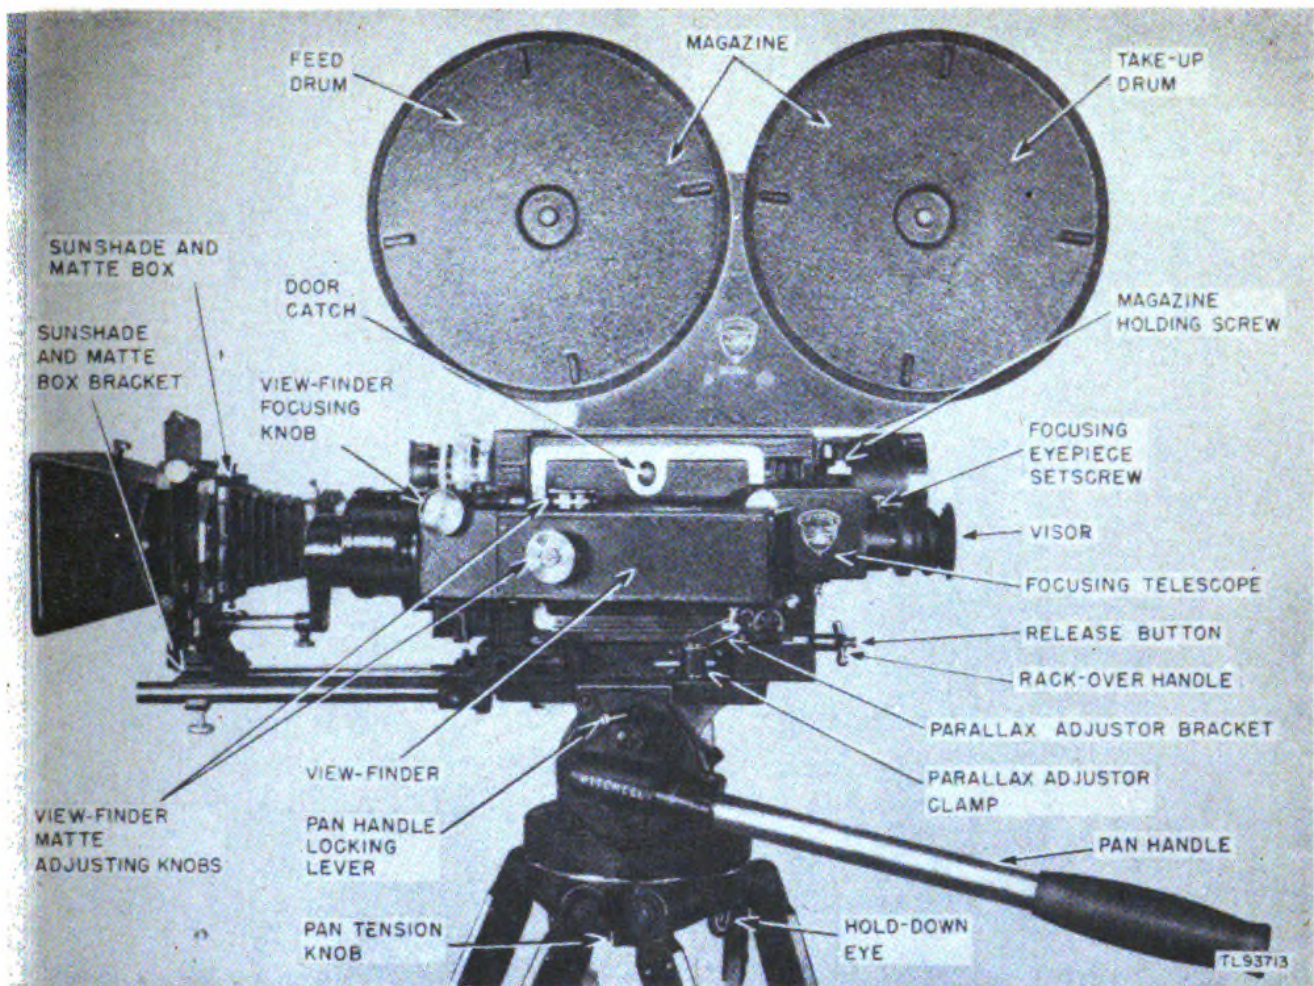
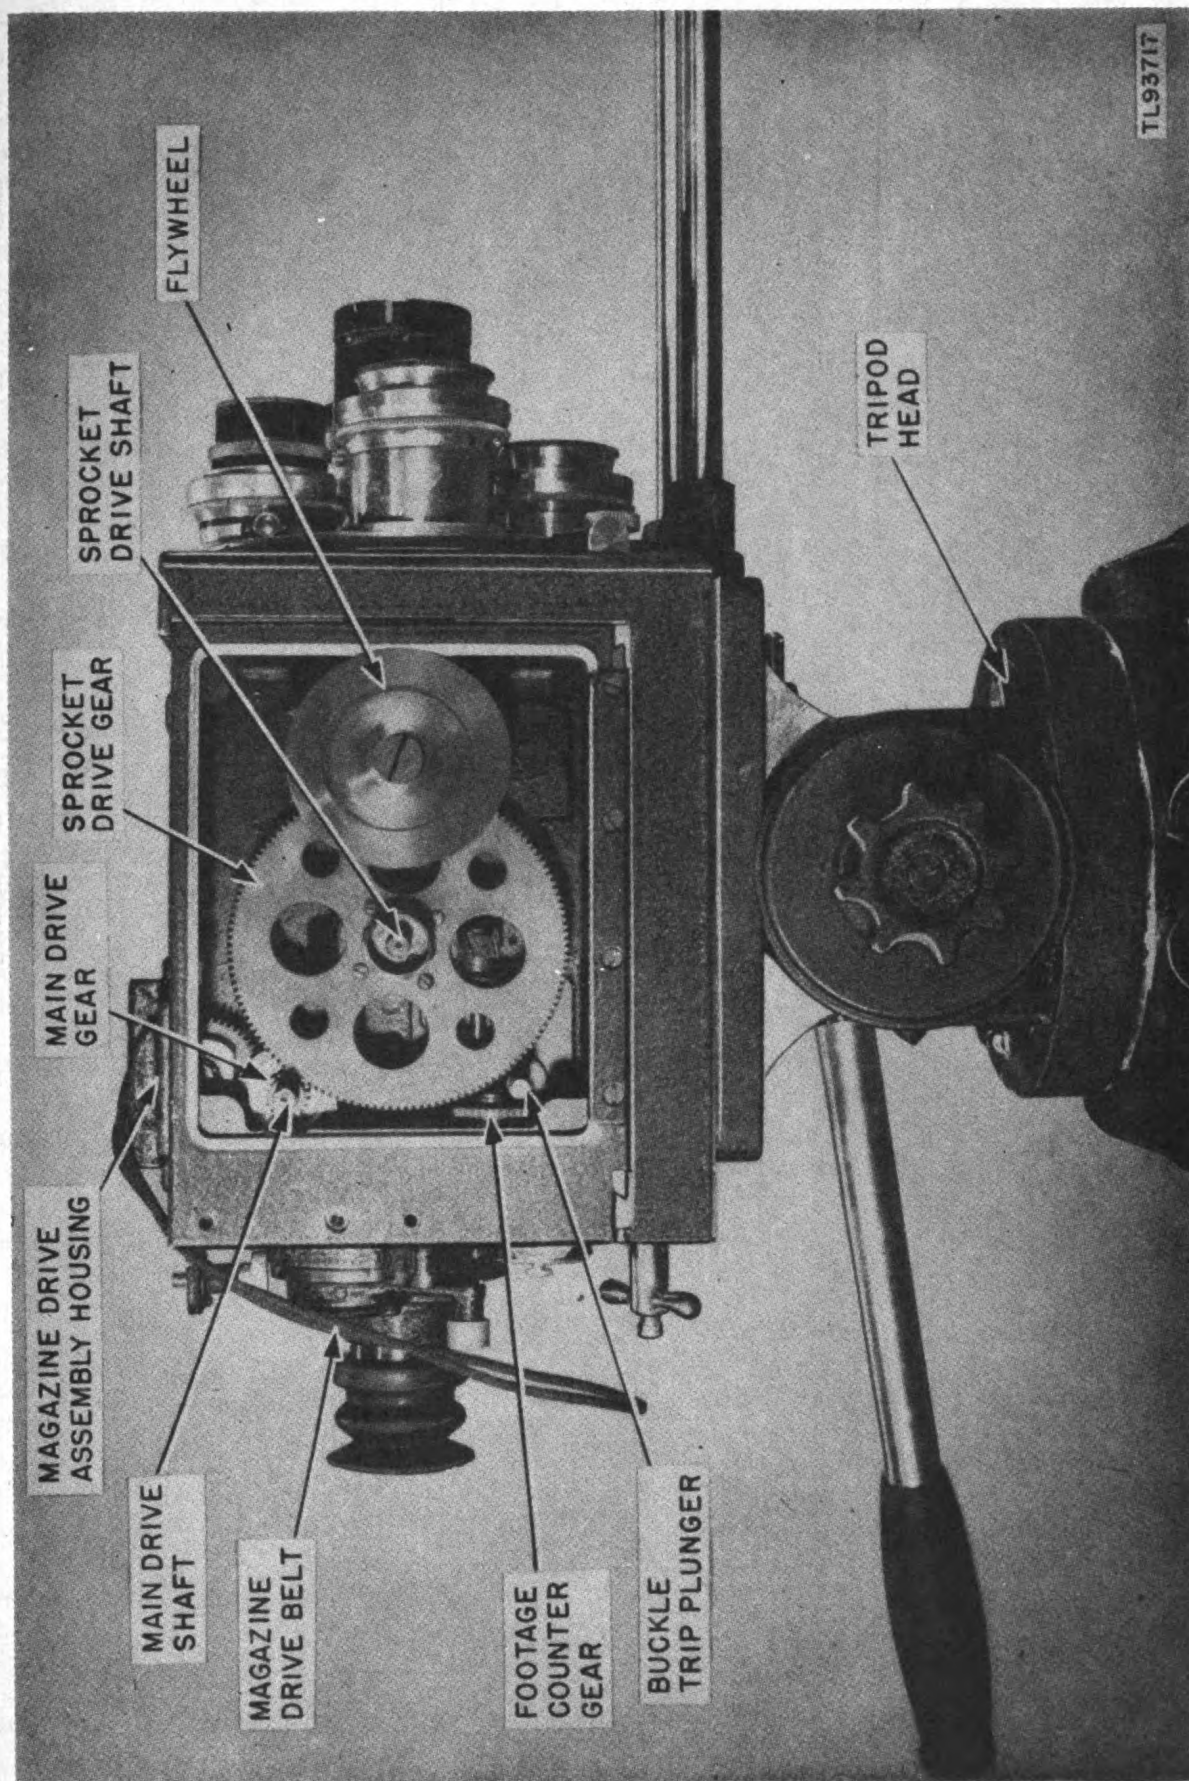
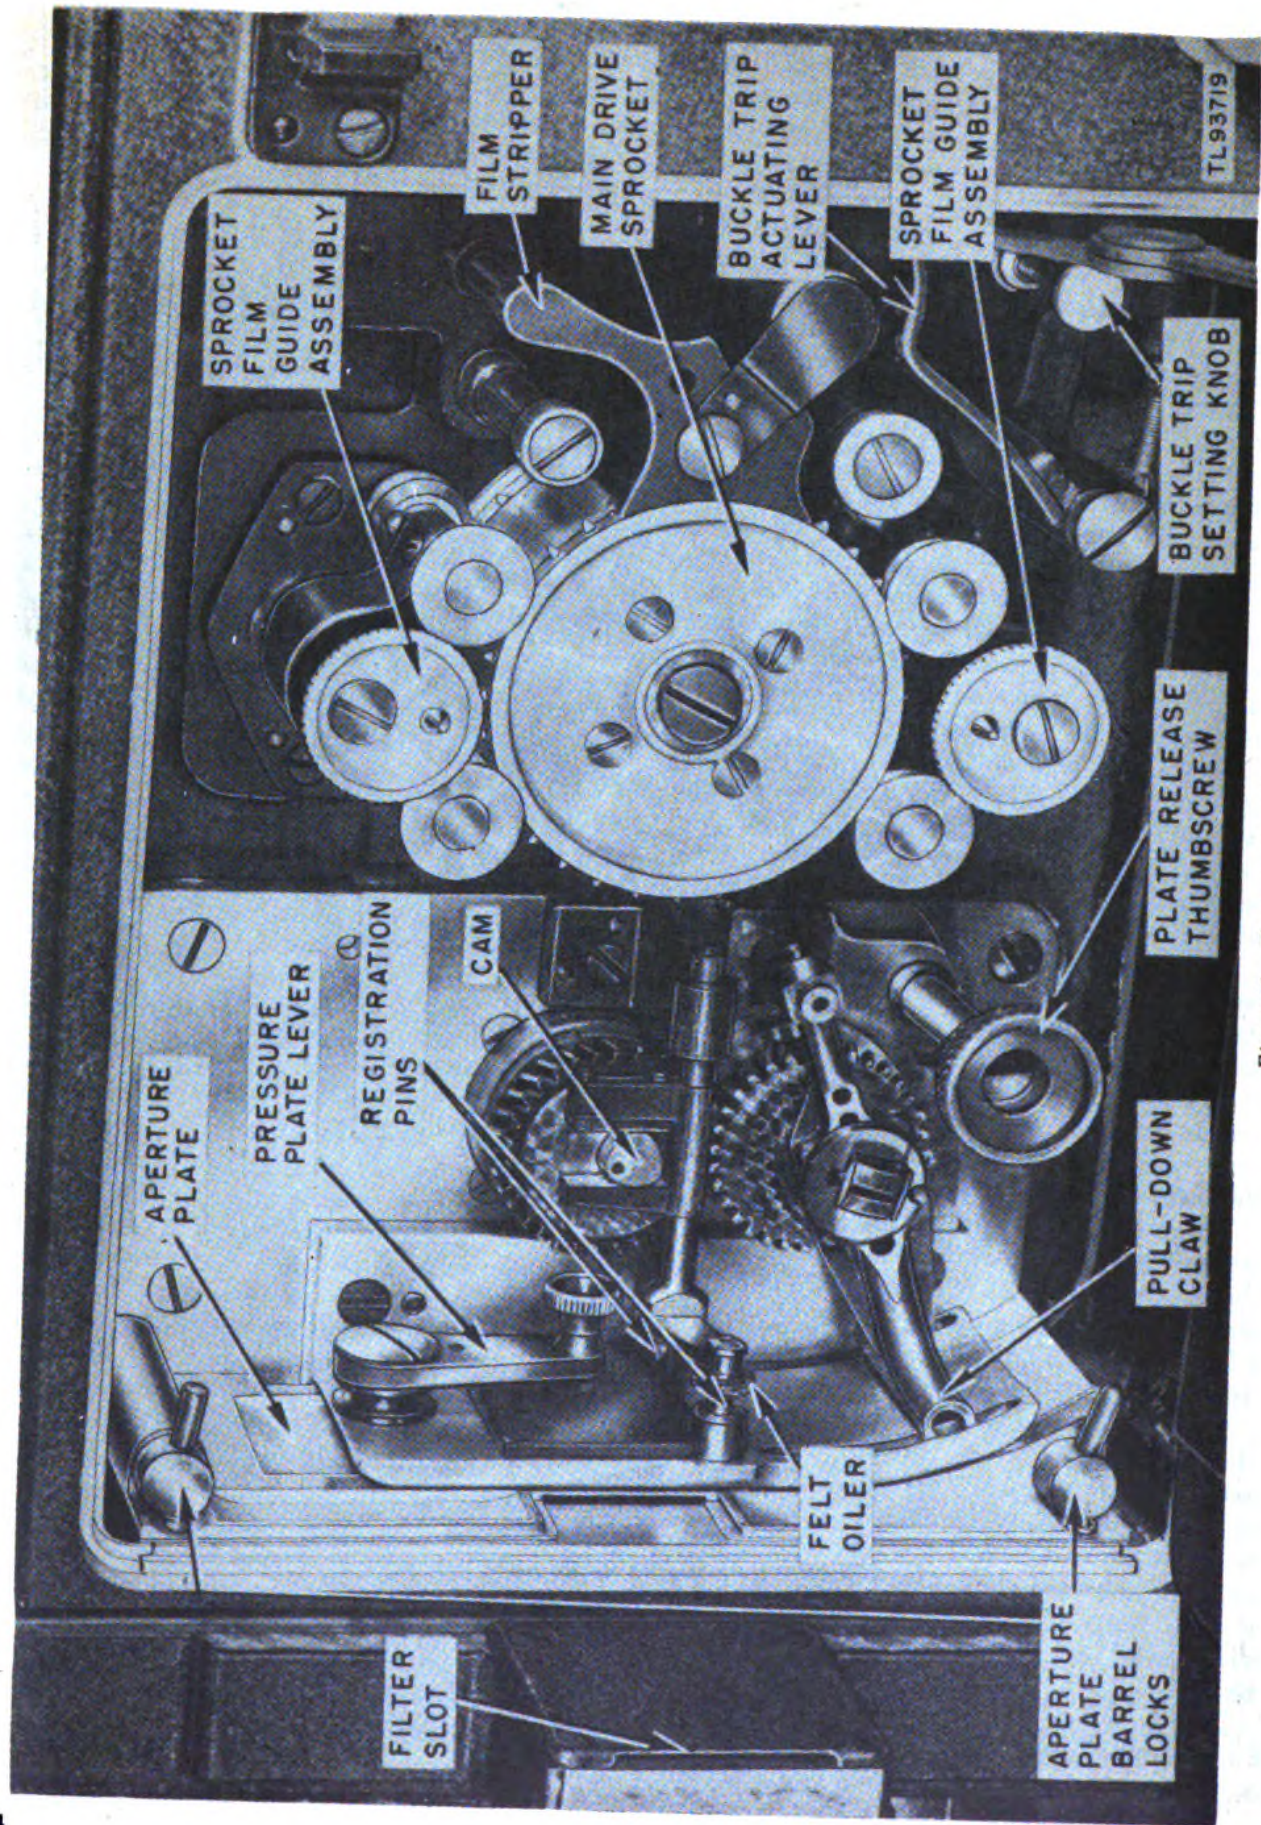

Figure 6. Camera, left side.
Figure 10. Camera, right side with cover removed showing gears.
Figure 12. Camera movement.
The left-hand, or operating side, contains the film moving mechanism and the intermittent movement. (See fig. 12.) The right-hand side contains the camera driving mechanism. (See fig. 10.) The operating side has a door hinged at the bottom. The focusing telescope (fig. 6) is an integral part of this door. The drive side is protected by a removable cover fastened by a latch. On top of the camera box is a recessed plate for attaching the film magazine and an opening through which the film is drawn from the magazine to the film compartment of the camera. This is covered by a fiber dust plate when a magazine is not in place. The magazine
5. Drive (fig 10)
c. Film is drawn from the magazine and fed to the intermittent by a sprocket (fig. 12) with 32 teeth. The film is held against the sprocket by 2 sprocket guide assemblies.
6. Intermittent and Aperture Plate (fig.12)
10. Focusing Telescope (fig. 6)
11. View-finder (figs. 6 and 7)
14. Magazines (figs. 6, 8, 11)
15. Sunshade and Matte Box (figs. 6 and 86)